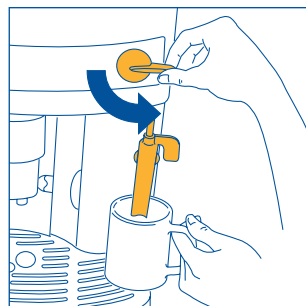
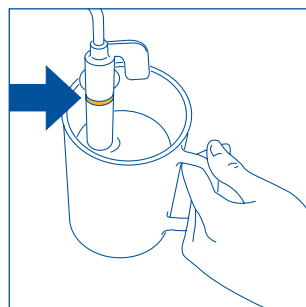

Fig.23
Fig.24
- Dip the cappuccino maker into the recipient containing the milk (fig. 23), taking care not to immerse the raised line on the cappuccino maker (indicated by the arrow in fig. 24). Turn the steam knob a half turn counter-clockwise as far as it will go (Beware of burns). Steam is discharged from the cappuccino maker, giving the milk a creamy frothy appearance. To obtain a creamier froth, dip the cappuccino maker into the milk and rotate the container with slow movements from the bottom upwards. (You should not discharge steam for more than two minutes at a time).